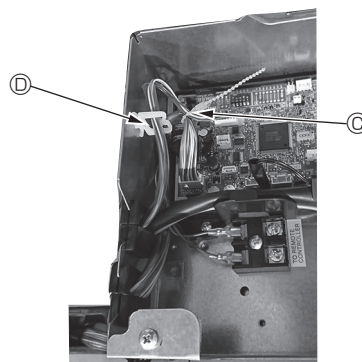

Fig. 10-14
- Place the excess portions of the i-see Sensor and signal receiver junction wires in the electric component box in the wire clip as shown in the diagram, and secure the wires together with the fastener. (Fig. 10-14)